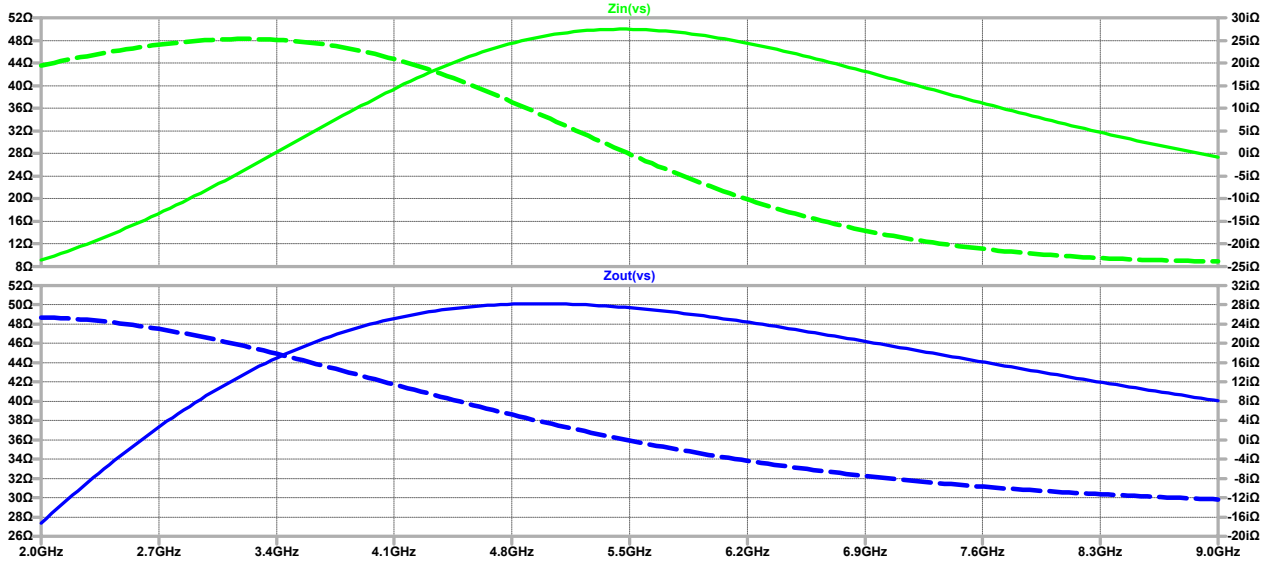

Figure 3: Z_{in} and Z_{out}
A. Ohmic matching. If the circuit is correctly matched the real part of the input impedance, $Re\{Z_{in}(f = 5.5GHz)\} = 50\Omega$, the real part of the output impedance, $Re\{Z_{out}(f = 5.5GHz)\} = 50\Omega$. The simulated Z_{in} and Z_{out} are shown in Figure 3, the matched impedance values are shown in 1.
B. Reactance matching. If the circuit is correctly matched the imaginary part of the input impedance, $Im\{Z_{in}(f = 5.5GHz)\} = 0\Omega$, the imaginary part of the output impedance, $Im\{Z_{out}(f = 5.5GHz)\} = 0\Omega$. The simulated Z_{in} and Z_{out} are shown in Figure 3, the matched impedance values are shown in 1.